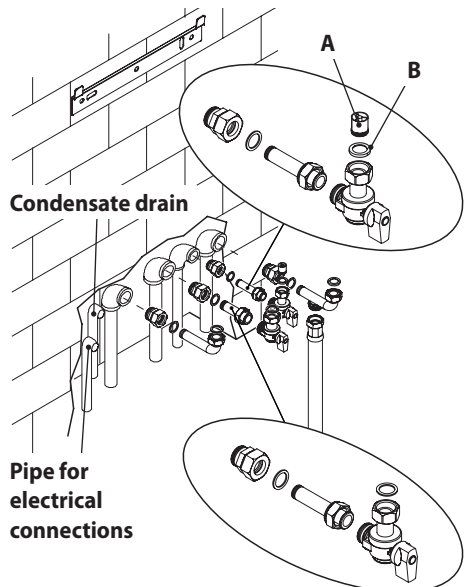

Figure 5.3
- Insert the check valve (**A**) inside the "fill heating circuit" fitting and put the gasket with filter in place (**B**) (Figure 5.3 and Figure 5.4)